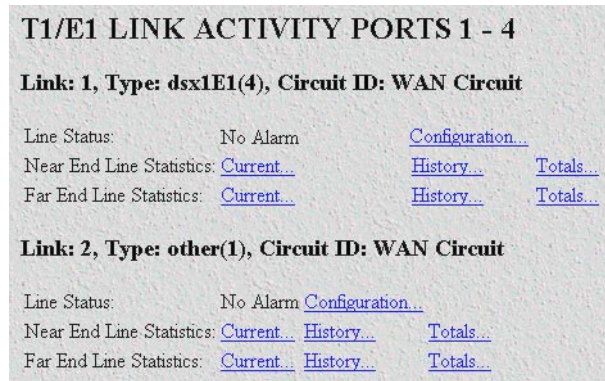

Figure 35. T1/E1 Link Activity Ports 1 – 4 page.
- View Link 1* corresponds to the first WAN circuit on the T-DAC. To the right of *View Links 1-4* click the *View Links...* hyperlink to open the **T1/E1 LINK ACTIVITY PORTS 1 – 4** page (see figure 35).